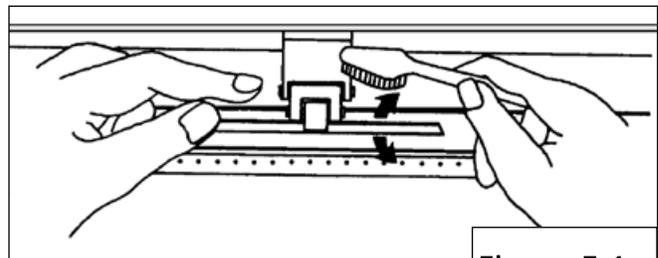

Figure 5-1
- Use a bristle brush (a toothbrush is acceptable) to remove dust from the drum surface. Rotate the roller drum manually while cleaning (Figure 5-1).